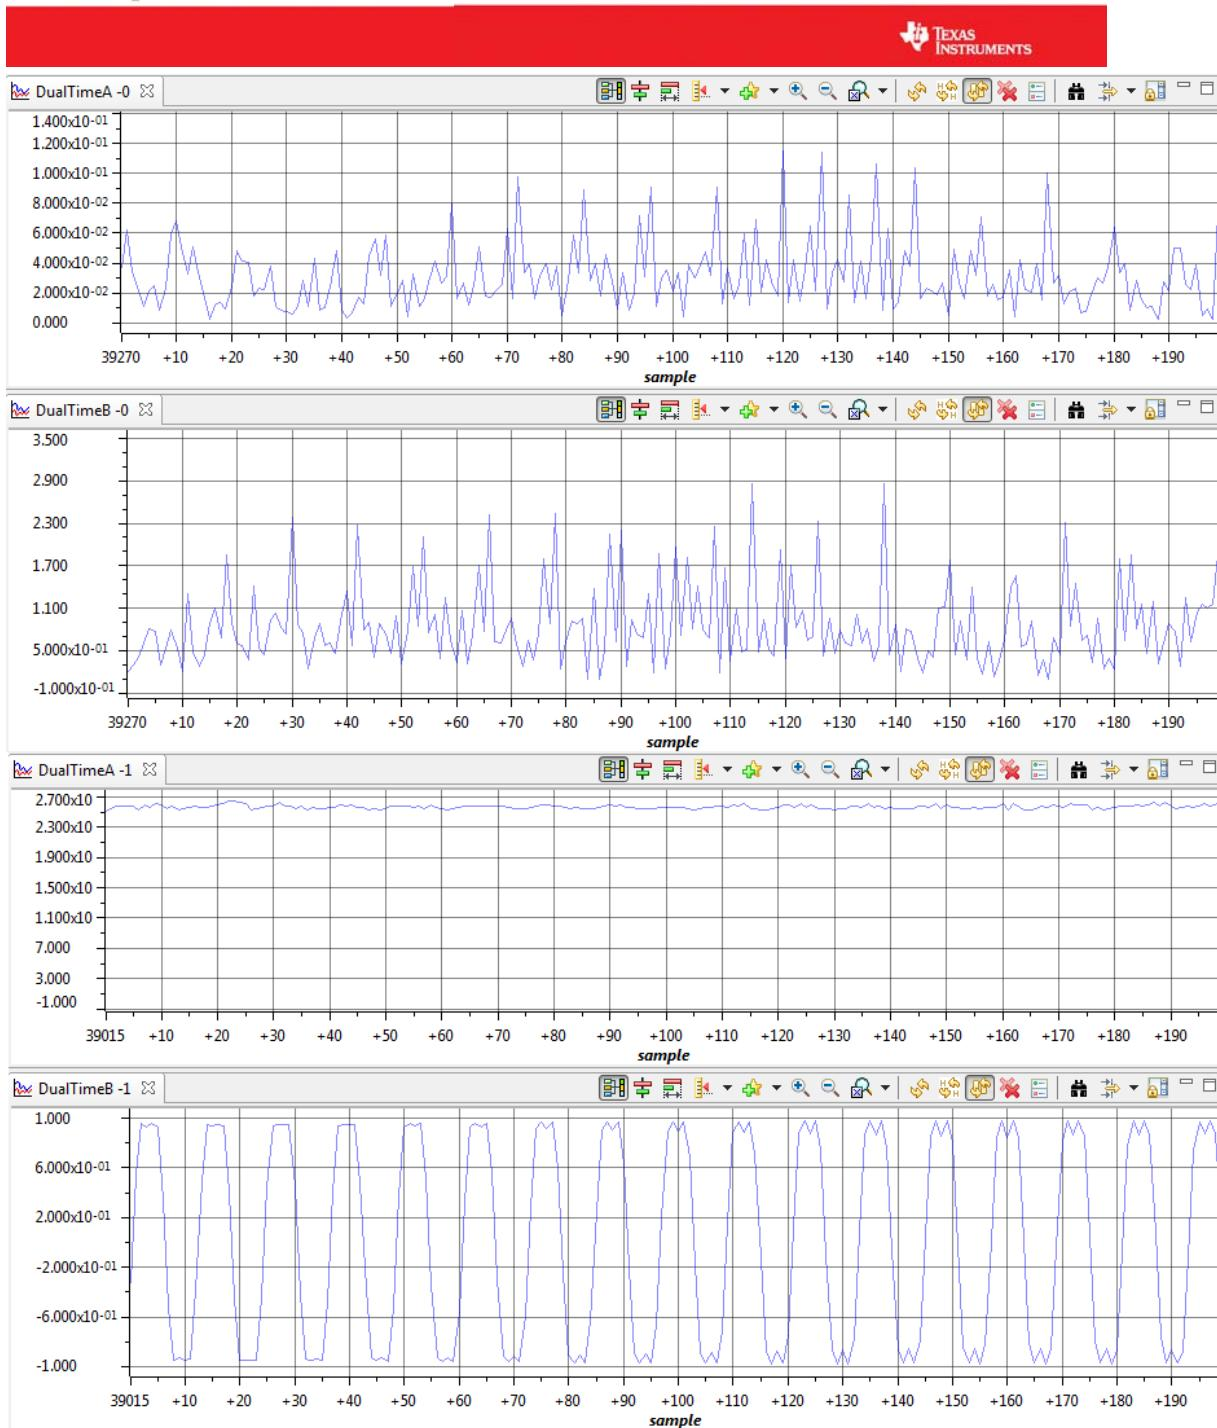

Fig 11 Graph Windows for Torque Control Mode (a) Motor torque output, (b) Total motor Current, (c) DC bus measurement (Volt) and (d) PWM1 output (pu)
- Setting “gGUIObj.EnableFlg” to 1 starts the main interrupt service routine for FOC control, ADC sampling of motor phase currents and DC bus voltage as well as generation of PWM output. Shown in Figure 11, is the expected Scope output (PWM signals) seen on pins 25, 26 and 28 of connector J5. If no change is observed, check to make sure continuous refresh is pressed.
- Set “gGUIObj.GraphInput” to 2 to enable graphing of current control mode variables. Verify the DC bus voltage (real world value, unit Volt) and PWM output (per unit) waveforms. Refer to Figure 11.
- Set “gGUIObj.GraphInput” to 1 to enable graphing of speed control mode variables. Verify the motor speed feedback (pu) and SMO based electrical angle (pu) waveforms (Refer to Figure 11).
Fig 11 Graph Windows for Speed Control Mode (a) Motor speed feedback (pu), (b) Phase A current (pu), (c) SMO based electrical angle and (d) Encoder based electrical Angle